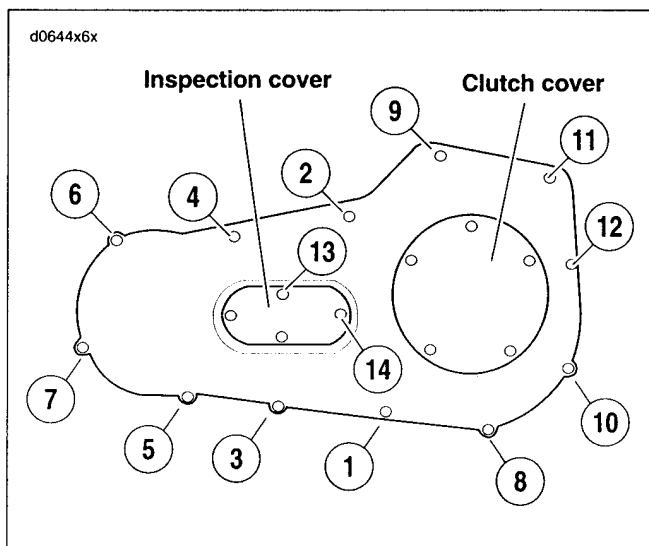

Figure 6-1. Primary Chaincase Cover
See Figure 6-1. The inspection cover is fastened to the inner primary chaincase at the top and rear screws (13, 14). Before removing the primary cover, be sure you remove the inspection cover's top and rear screws or the cover, primary cover and inner primary will be damaged.
- a. See Figure 6-1. First remove the top and rear inspection cover screws (13, 14).
2. See Figure 6-1. Tighten primary cover screws (1-12) to 108-120 in-lbs (12.2-13.6 Nm) in the sequence shown. Tighten inspection cover screws (13, 14) to 84-108 in-lbs (9.5-12.2 Nm).